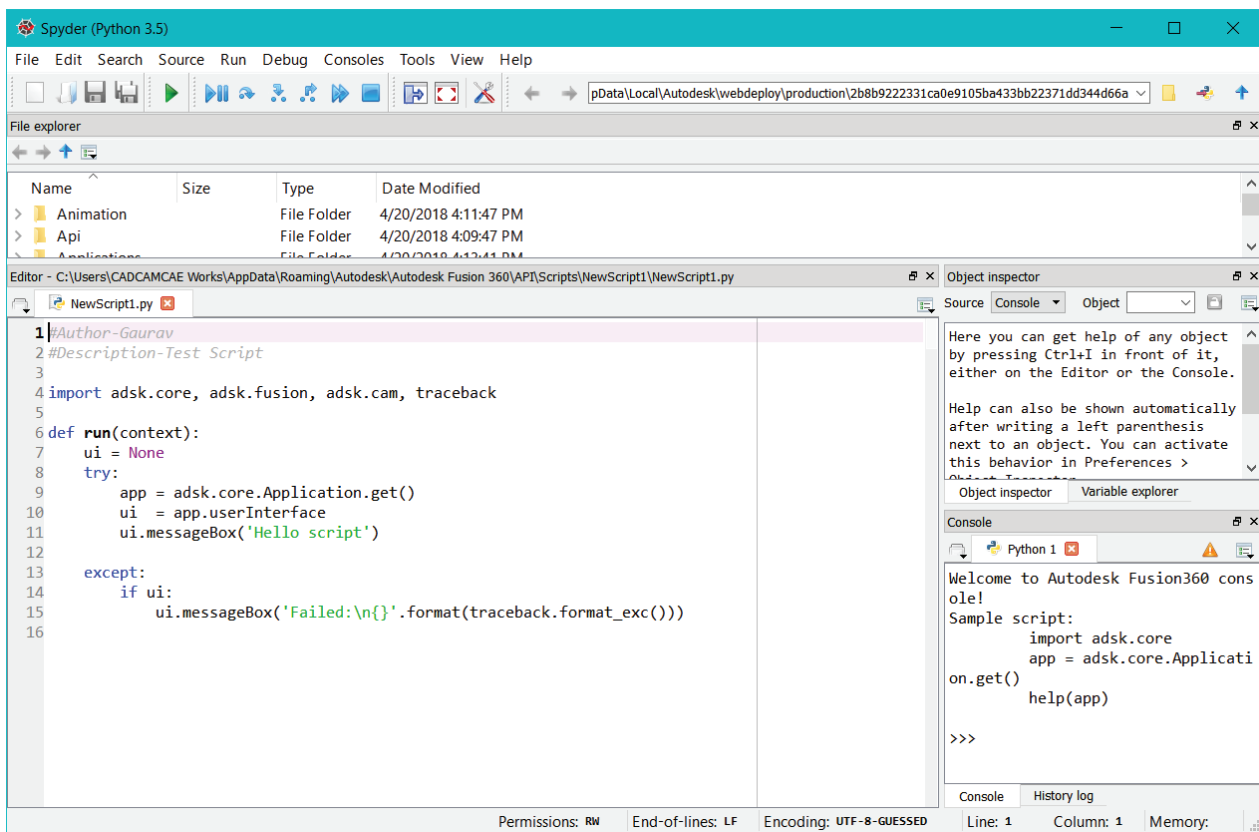

Figure-64. Spyder application window
- Select the newly created script/Add-in and click on the **Edit** button. If the script/Add-in is coded in **Python** then Spyder will start installing and once installation is complete, codes will be displayed; refer to Figure-64. If you have opted for any other language then system will ask you for respective Programming software to display codes. If you like coding then you can check **Learning Python, 5th Edition by Mark Lutz** as reference book for Python programming.